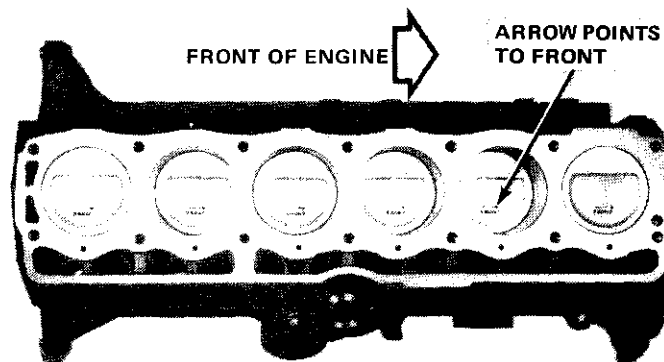

Fig. 1B-41 Pistons Correctly Positioned in Bores
An arrow on the top surface of the piston ensures correct installation in the bore. The arrow points toward the front of engine when installed (fig. 1B-41).
(1) Measure inside diameter of cylinder bore 2-5/16 inches (58.725 mm) below top of bore.
(2) Measure outside diameter of piston.
**NOTE:** Pistons are cam ground and must be measured at right angle to piston pin at centerline of pin (fig. 1B-42).
(3) Difference between cylinder bore diameter and piston diameter is piston-to-bore clearance.